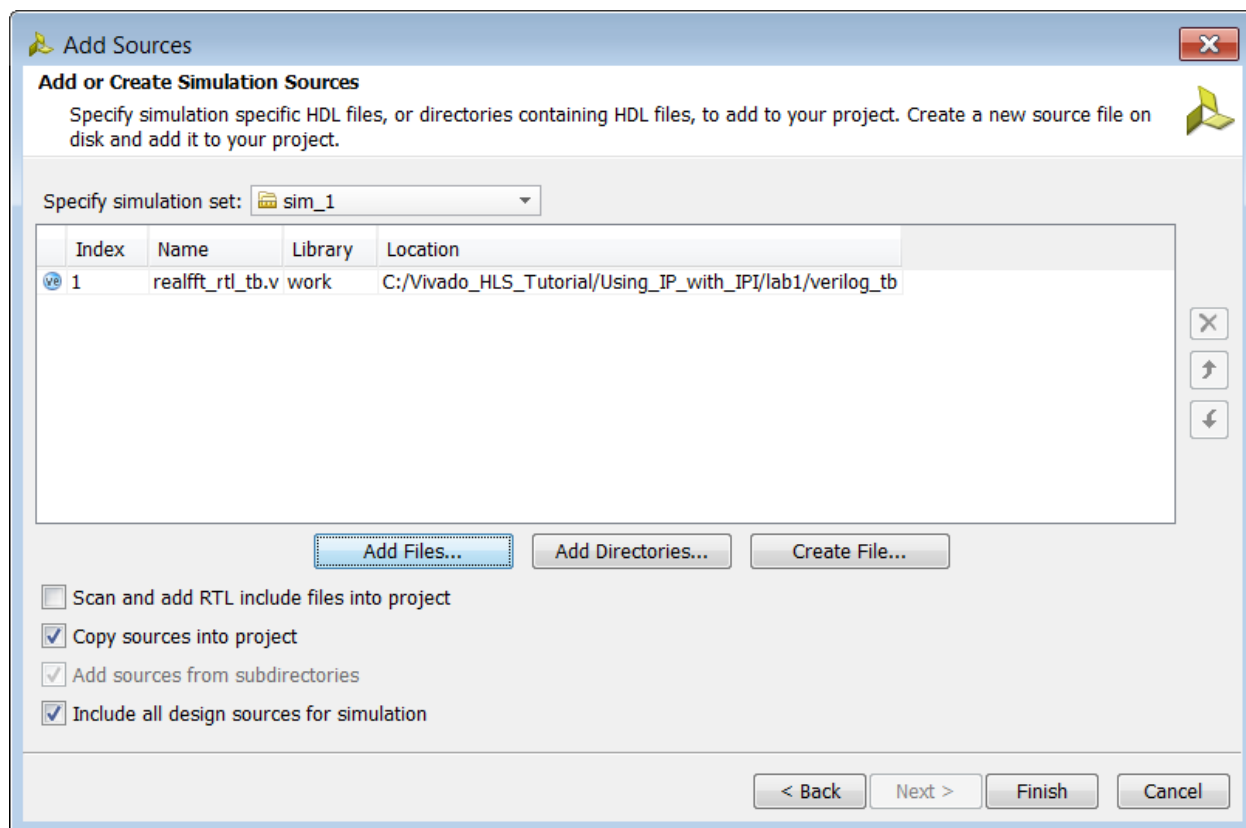

Figure 212: Copy Design Sources
5. In the Add Sources dialog box, click the **Add Files** button highlighted in Figure 212.
8. Select the checkbox **Copy sources into the project** (Figure 212).